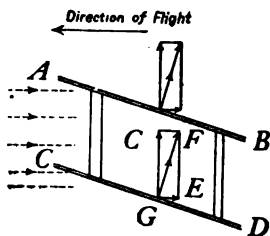

FIG. 64.—Resolution of the forces acting on an aeroplane.
**83. The Aeroplane.**—The aeroplane consists of one or two frames  $ABCD$  (see Fig. 64), over which is stretched cloth or thin sheet metal. It is driven through the air by a propeller turned by a powerful gasoline motor. This has the effect of creating a strong breeze coming toward the front of the aeroplane. As in the case of the sailboat a pressure is created at right angles to the plane along  $GF$  and this may be resolved into two components